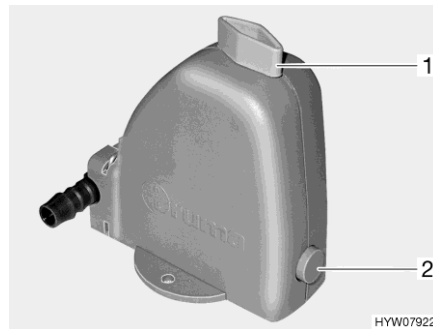

Fig. 140 Safety/drainage valve
The heater is equipped with a safety/drainage valve (Fig. 140). The safety/drainage valve prevents water for the production of hot water from freezing, when there is frost and the heater is not switched on.
- Close the safety/drainage valve. Turn the knob (Fig. 140,1) perpendicular to the safety/drainage valve and push the push button (Fig. 140,2) in.
- Open the safety/drainage valve. To do this turn the knob (Fig. 140,1) parallel to the safety/drainage valve. The push button (Fig. 140,2) jumps out. The domestic water container is emptied to the outside through the safety/drainage valve.